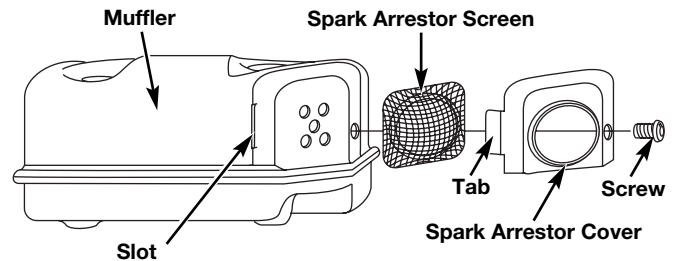

Fig. 37
2. With a flat blade screwdriver or Torx T-20 bit, remove the screw attaching the spark arrestor cover to the muffler (Fig. 37).